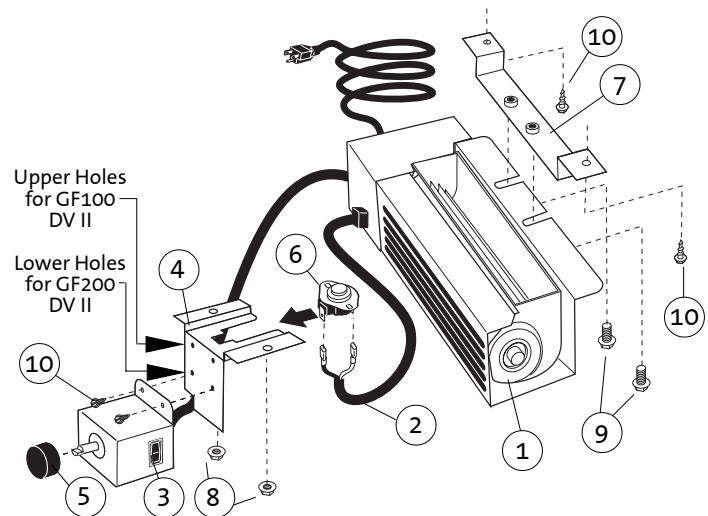

Figure 35. Blower Kit Components
1. **Unpack and check the contents** of the blower kit. Contact your dealer if any damage is evident or parts are missing. See fig. 35.
2. **Attach the Control Box to the Snapstat Bracket** using two #8 x 1/2" sheet metal screws. As shown in fig. 35, use the pair of mounting holes appropriate for your stove.
**GF 100 DV II:** First install the Mounting Bracket to the holes in the bottom of the rear shroud using two #8 x 1/2" sheet metal screws. Then attach the Blower to the Mounting Bracket using the two M6 flange head hex bolts as shown in fig. 35 and 37.
**5. Attach either Snapstat wire connector to either Snapstat terminal.** See figs.35 and 37.